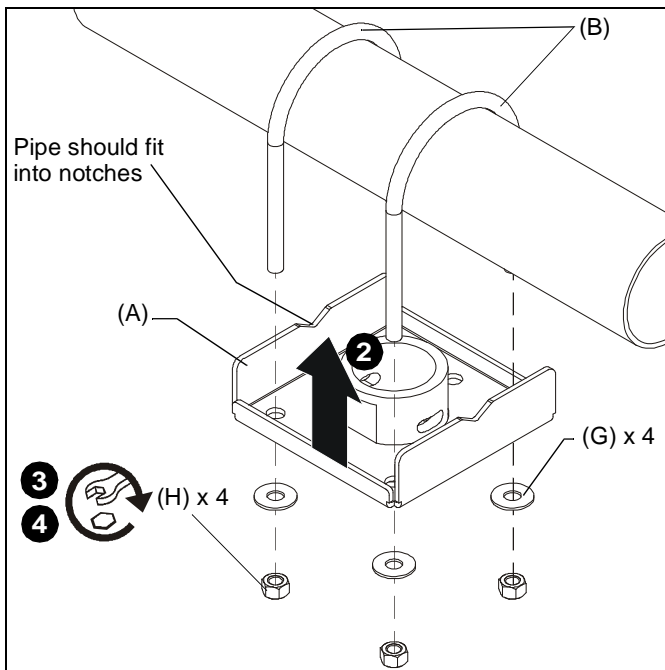

Figure 2
2. Raise truss plate (A) up and insert U-bolts through holes in truss plate. (See Figure 2)
NOTE: If installing truss plate (A) to pipe, ensure that pipe fits into notches in plate. (See Figure 2)
3. Loosely install 3/8" nuts (H) and 3/8" washers (G).
4. Level mount and tighten nuts (H). (See Figure 2)